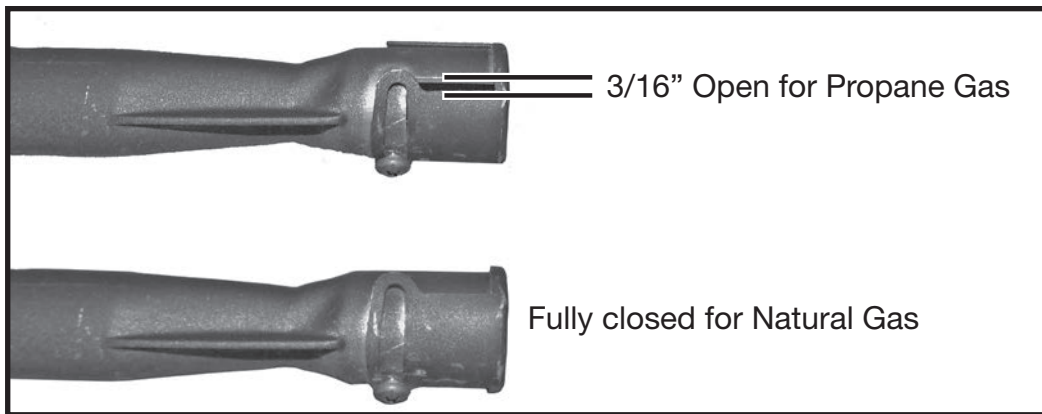

Figure 8: Shutter gap settings.
7. Check to see that the air shutters on the burners are set to the gas type being used before installing the burners (Figure 8).